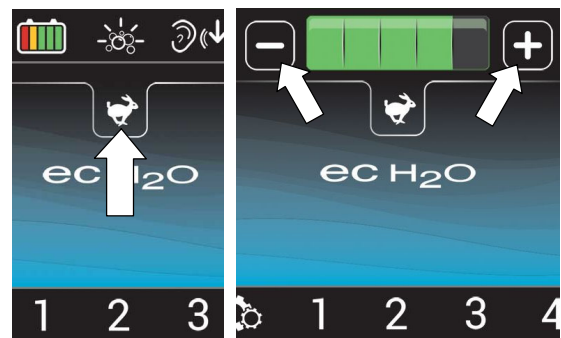

FIG. 52
5.  Press the maximum scrub speed icon to display the maximum speed scale (Figure 52). Press (+) symbol to increase the maximum scrub speed. Press the (-) symbol to decrease the maximum scrub speed. Only accessible in Supervisor Mode.